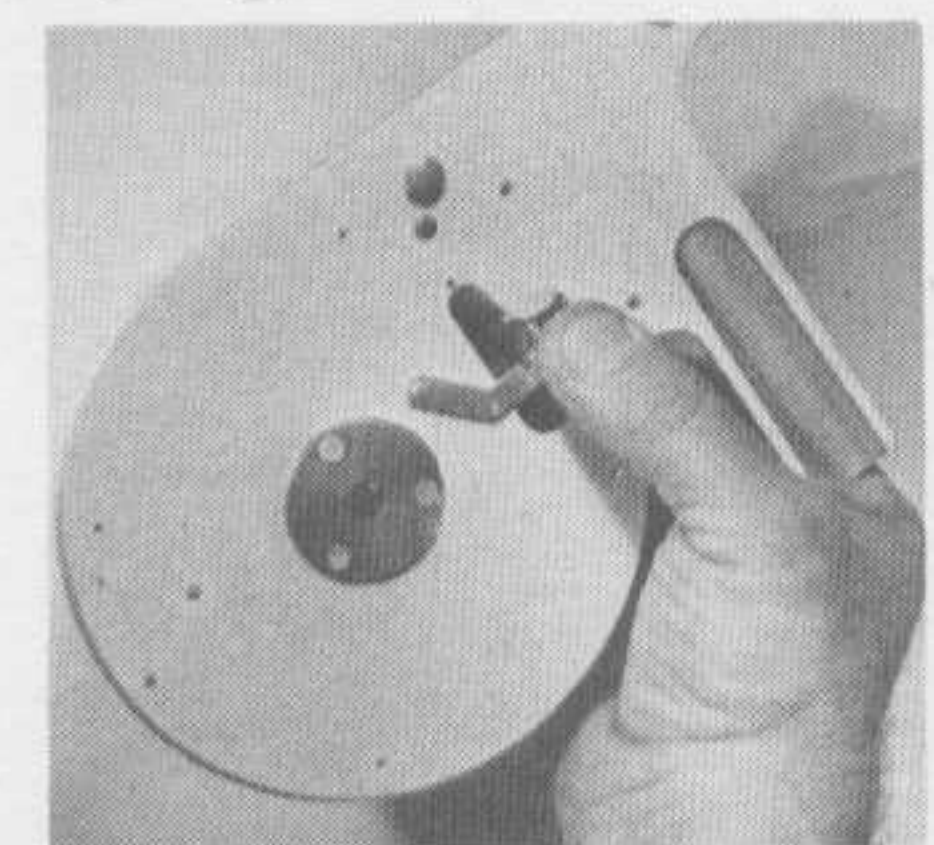

Fig. 26
4. Put a finger over the outer end of the lock lever and the lock roller (Fig. 26) and lift the lock lever from its pivot hole (directly under the bend in the lever) by prying it from underneath. Be careful because the coil lock spring (2-182)[†] exerts force on the lock lever unless, of course, this spring happens to be the broken part.
4. Slide the slot in the outer end of the lock lever over the small upper end of the lock roller; hold in place with the thumb (Fig. 26).